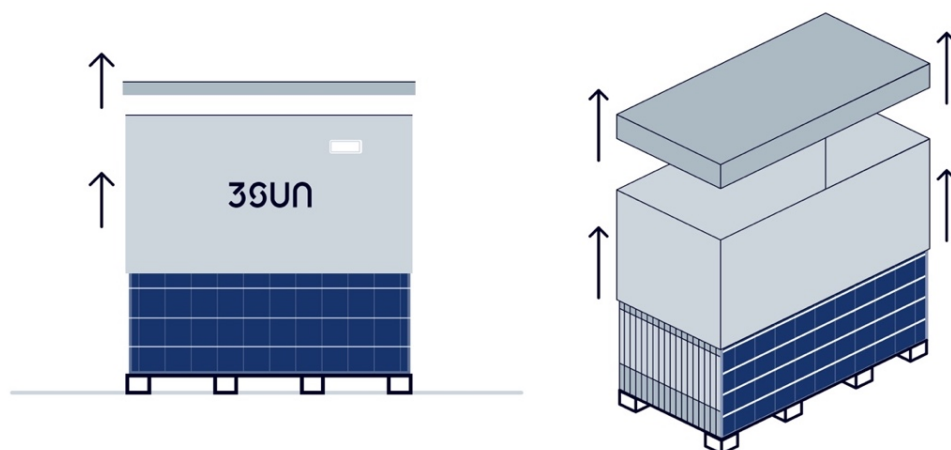

Figure 16: Removal of perimetral cardboard box and box top.
- b) Remove the box cardboard cap and then the perimetral cardboard box (Figure 16).